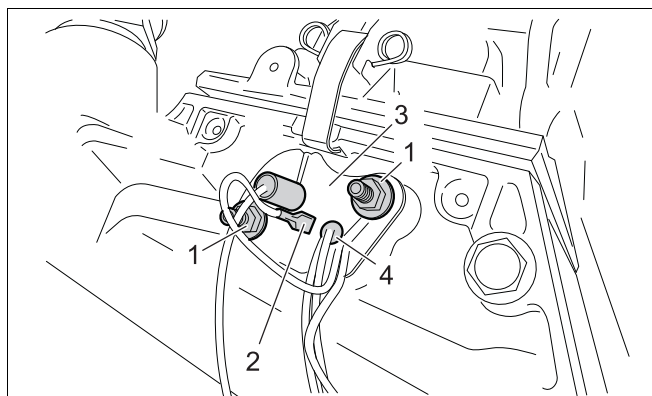

fig. 96 Replacing the hot surface ignitor
- Loosen the fastening screws (see fig. 96, pos. 1).
- Pull the earth cable from the hot surface ignitor (see fig. 96, pos. 2).
- Dismantle the mounting plate (see fig. 96, pos. 3).